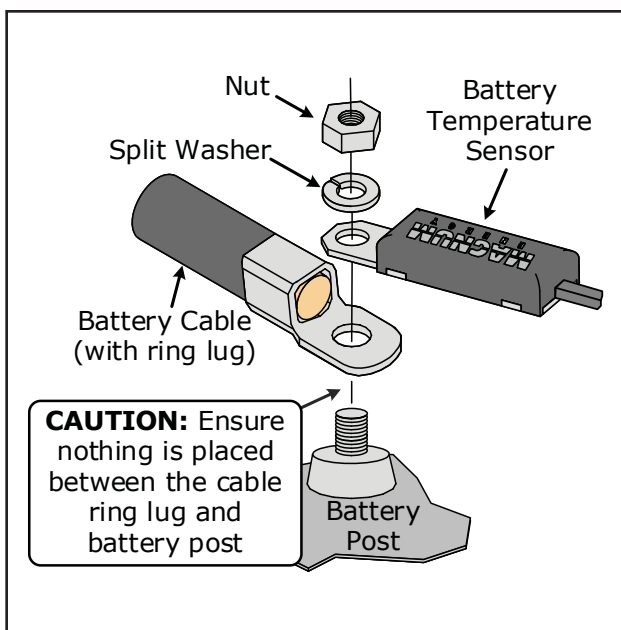

Figure 2-5, Battery Hardware Installation
Refer to Figures 2-5 and 2-6 for the correct way to connect the DC cables and to stack the hardware. Tighten the DC cable connections from 10 to 12 lb ft (13.6 to 16.3 Nm).
1. Attach the ring terminal end of the Battery Temperature Sensor (BTS) to the negative battery terminal (see Figure 2-5 for proper connection to the battery terminal).
Ensure the DC wire connections (on the batteries, inverter, and DC circuit breaker) are flush on the surface of the DC terminals, and the hardware (lock washer and nut) used to hold these connections are stacked correctly (see Figures 2-5 and 2-6). Verify all DC connections are torqued from 10 to 12 ft lbf (13.6 to 16.3 Nm).